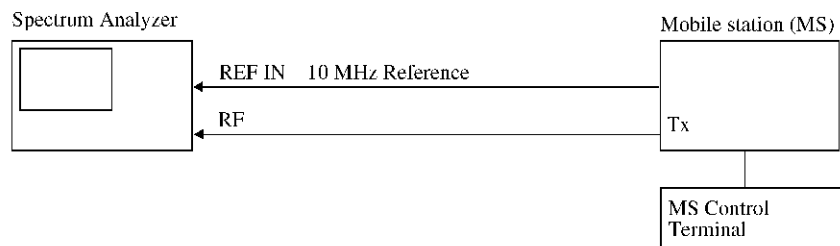

Figure 2-31 Setup for the measurement of the Power vs Time
1. Connect the unit under test as shown in Figure 2-31.